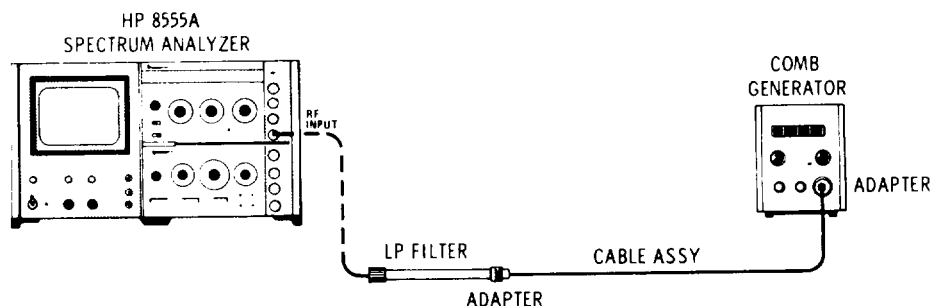

Figure 4-3. Scan Width Accuracy Test Setup
1. Connect the test setup in Figure 4-3 and make the following control settings: